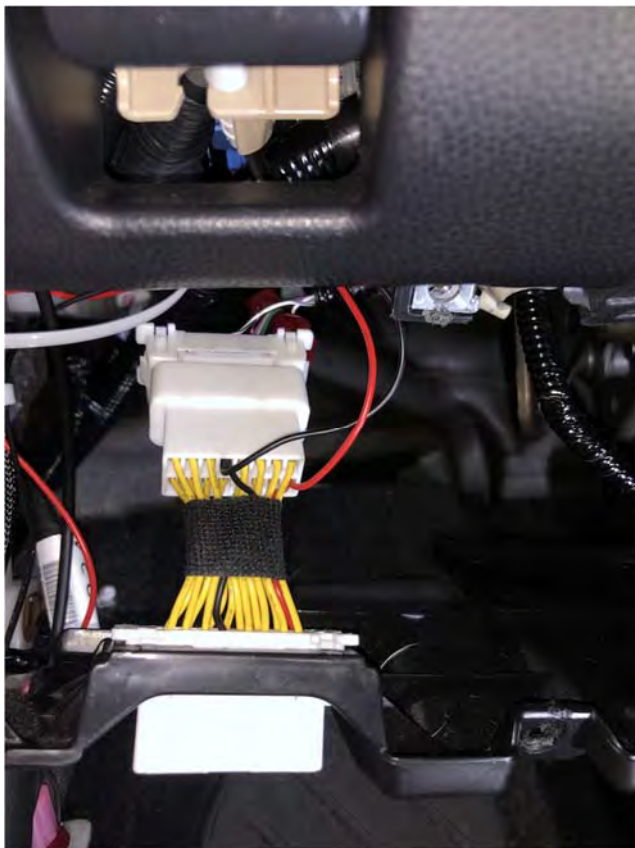

Figure 42
- (b) Connect the vehicle's DLC connector to the DLC Power & Ground Jumper. Figure 42.